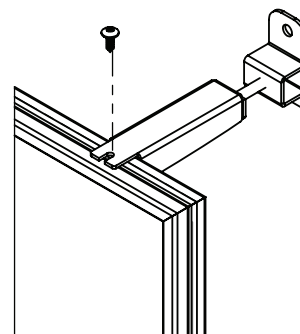

Figure 2
5. Reposition the corner supports and attach them to the screen frame using the provided M8 X 1/2" screws. Figure 2.